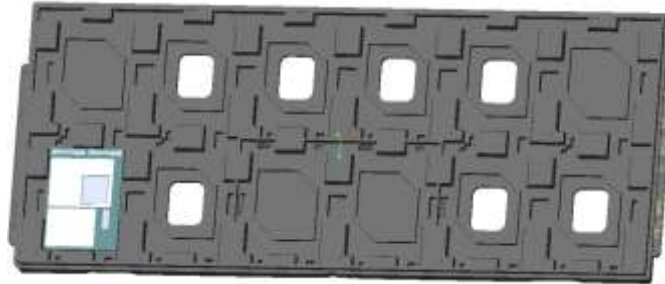

Figure 4-1. Single-layer Tray Packaging
Refer to Figure 4-1 below for single-layer tray packaging. SOM modules shall be chamfered per the tray chamfer and loaded according to the sequence of IMEI number, and one Plastic tray (③) can be loaded with 12 sets of SOM.